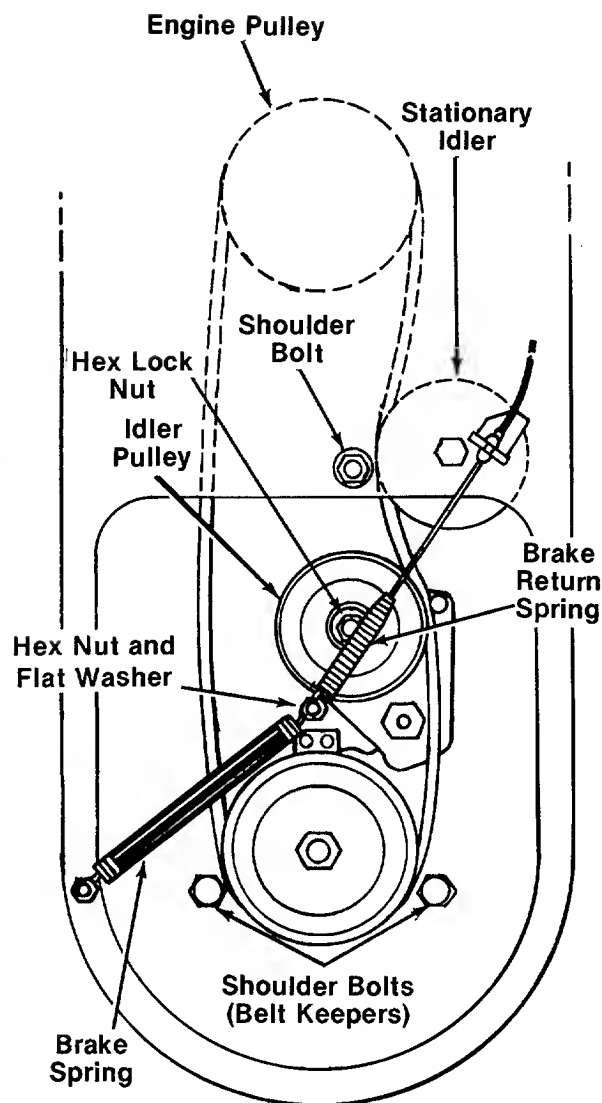

FIGURE 21.
5. Remove shoulder bolts (belt keepers) at blade pulley. See figure 21.
6. Remove hex lock nut at brake bracket assembly. See figure 21.
7. Remove brake spring, flat washer and brake return spring from brake bracket assembly. See figure 21.
8. Remove the idler pulley from the idler brake bracket assembly. See figure 21.
9. Remove shoulder bolt (belt keeper) next to stationary idler. See figure 21.